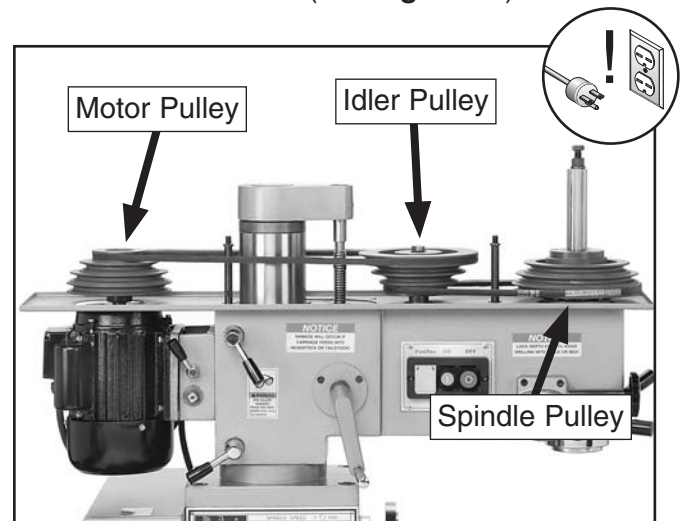

Figure 20. Mill drive system cover removed exposing V-belts and pulleys.
2. Remove the acorn nuts and flat washers securing the mill drive system cover, then remove the cover (see **Figure 20**).